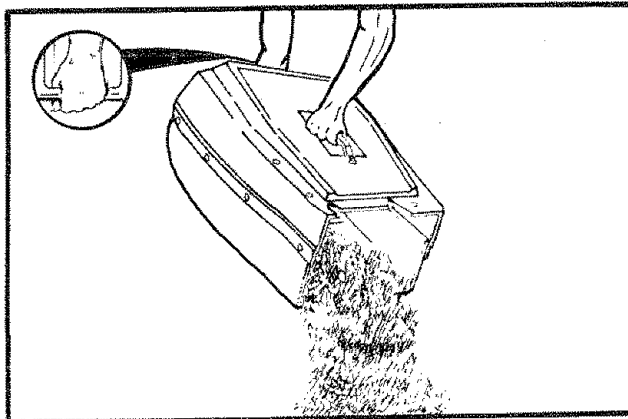

FIG. 10
1. Lift grass catcher, by grasping the handle on top of grass catcher and on the rear of catcher (See Fig. 10).
2. To empty the grass clippings, shake the catcher, with the open end over or into suitable container for disposal (See Fig. 10).